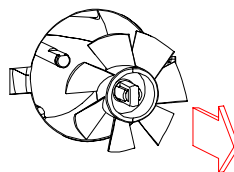

Fig. 17 Removing the fan blade
- Carefully pull the blade wheel from the shaft (fig.17).